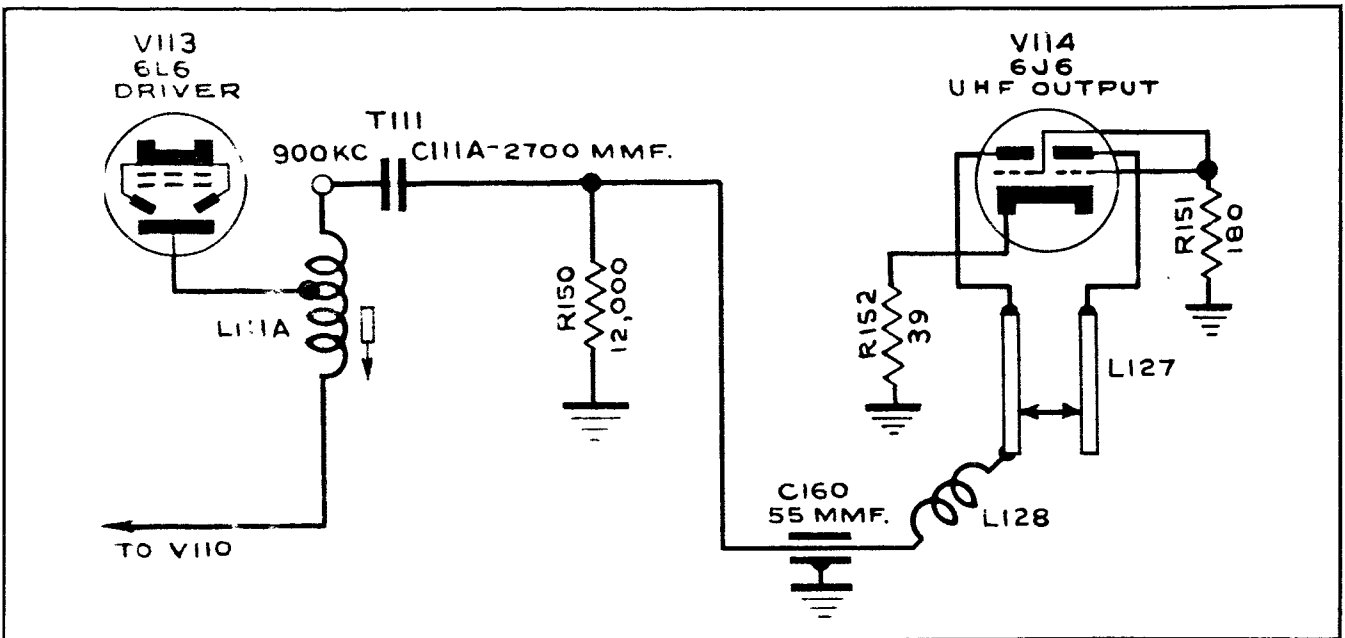

Figure 4-3. Radio Receiver and Transmitter BC-788-A — Functional Diagram of Driver and UHF Output
(3) The output of the clipper (tube V112) is essentially a damped voltage train in the order of 400 kilocycles, of which the first positive peak (highest) produces short pulses of plate current in the driver (tube V113). A damped voltage train of approximately 900 kilocycles appears across driver output transformer T111. (See fig. 4-3.) This frequency is determined by inductance L111A, capacitance C160, and circuit capacity. Capacitor C111A blocks the d-c component. R150 is the damping resistor for this circuit and also the d-c return path for the plate current of UHF output tube JAN-6J6 (V114).
(4) The UHF oscillator (tube V114) which operates at a frequency of 440 megacycles, derives its plate voltage entirely from the output of the driver stage (tube V113). No d-c potential appears on the plate of the UHF oscillator except for a small bias developed across resistor R150. The UHF oscillator is connected in push-pull, the two triodes being housed in the same envelope. The frequency of operation is controlled by the position of the shorting bar on plate tank circuit L-127 and circuit and tube capacity. The UHF oscillator circuit is basically a push-pull tuned grid oscillator circuit. The two grids of this tube are tuned by the tube capacity and are connected externally by a lead which is simply a jumper. Resistors R151 and R152 obtain higher efficiency and stabilize the output frequency with line voltage variations.